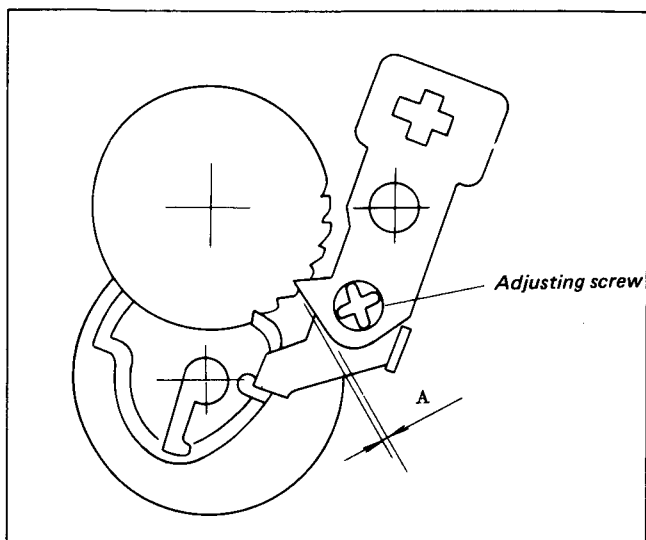

Fig. 3-16.
- (1) Rewind the tape a little and select the PLAY mode (for the playback of the end of the tape) after the auto-stop at the tape end in the FAST FWD mode. Confirm that the tape runs without any slackness at the capstan shaft area. If there is tape slackness, perform the following adjustment.
- (2) Remove Cassette-Lift.
- (3) Clean the take-up reel table assembly, the FWD idler assembly, and the FWD belt with a piece of cloth dampened with alcohol.
- (4) Attach the reel table tension gauge on the take-up reel table as shown in Fig. 3-16.
- (5) Pull out the string from the reel table tension gauge about 30 cm (12 inches) and hook the sector type tension gauge (50 g fullscale) on the end of string.